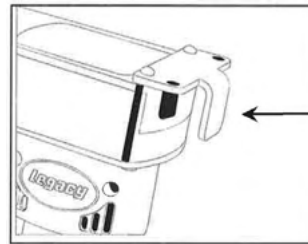

Figure 2
**UTILITY HANG HOOK: (see Figure 2):**